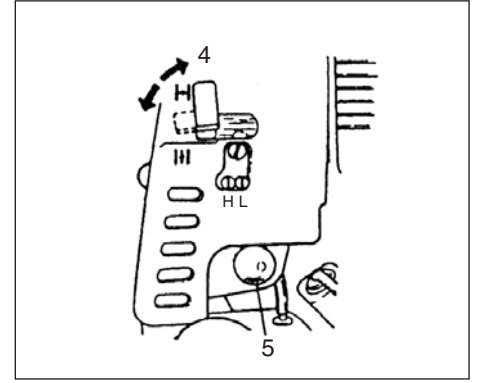

Fig.2-3
- *Push priming bulb (5) several times so that fuel flows through return pipe (if so equipped)(Fig. 2-3)
2. With the safety trigger (2) pressed (if so equipped), pull throttle trigger and push throttle lock (3), then slowly release the throttle trigger first, then the safety trigger. This will lock the throttle in starting position.
(Fig. 2-3)